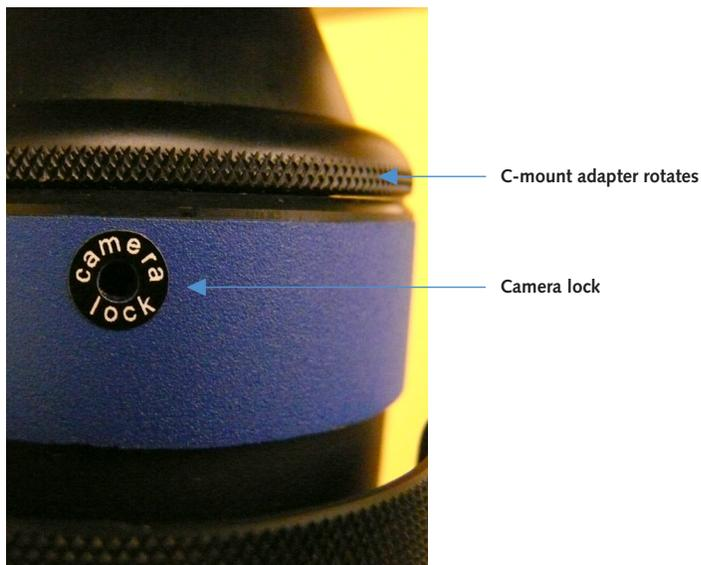

Figure 6. The *camera lock* on the DV2 can be unlocked to rotate the C-mount adapter.
3. The DV2 is supplied with a C-mount adapter that can rotate independently from the rest of the DV2 body. This allows you to properly orient the aperture mask in the DV2 in respect to the camera. The screw that allows you to lock and unlock the DV2 C-mount adapter is located in a recessed hole labeled with the words *camera lock* found at the top of the DV2 (**Figure 6**).